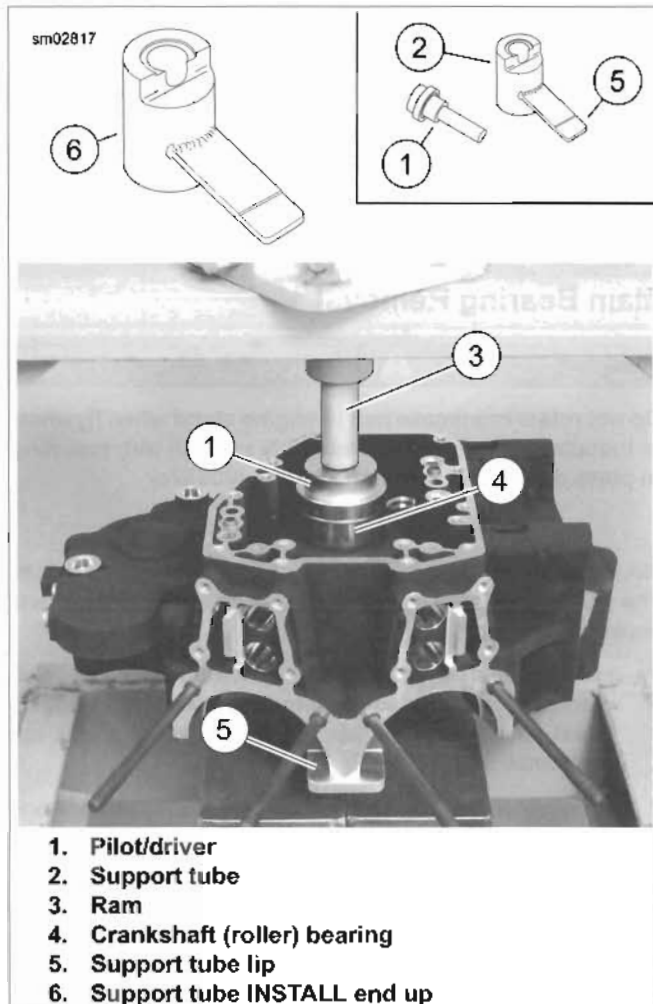

Figure 3-132. Right Crankshaft (Roller) Bearing Installation
1. See Figure 3-132. Obtain CRANKSHAFT (ROLLER) BEARING REMOVAL/INSTALL PILOT/DRIVER (Part No. HD-44065-1), CRANKSHAFT (ROLLER) BEARING DRIVER SHIM (Part No. HD-42720-4) and CRANKSHAFT (ROLLER) BEARING REMOVAL/INSTALL SUPPORT TUBE (Part No. HD-44065-4).
2. Spread a thin film of clean H-D 20W50 engine oil on O.D. of **new** bearing (4).
3. Place support tube (2) on press table with the **INSTALL** end up. The support tube is stamped to provide proper orientation.
4. Place SHIM (Part No. HD-42720-4) on support tube (2).
5. With cam compartment side facing upward, position crankshaft bearing bore over support tube. Lip on support tube (5) must contact edge of crankcase as shown. This allows curved portion of inboard crankcase to contact top curved portion of support tube (2).
7. Slide pilot/driver (1) through bearing into support tube.
8. Center pilot/driver under ram (3) of press. Apply pressure to pilot/driver until resistance is felt and bearing is bottomed on the support tube.